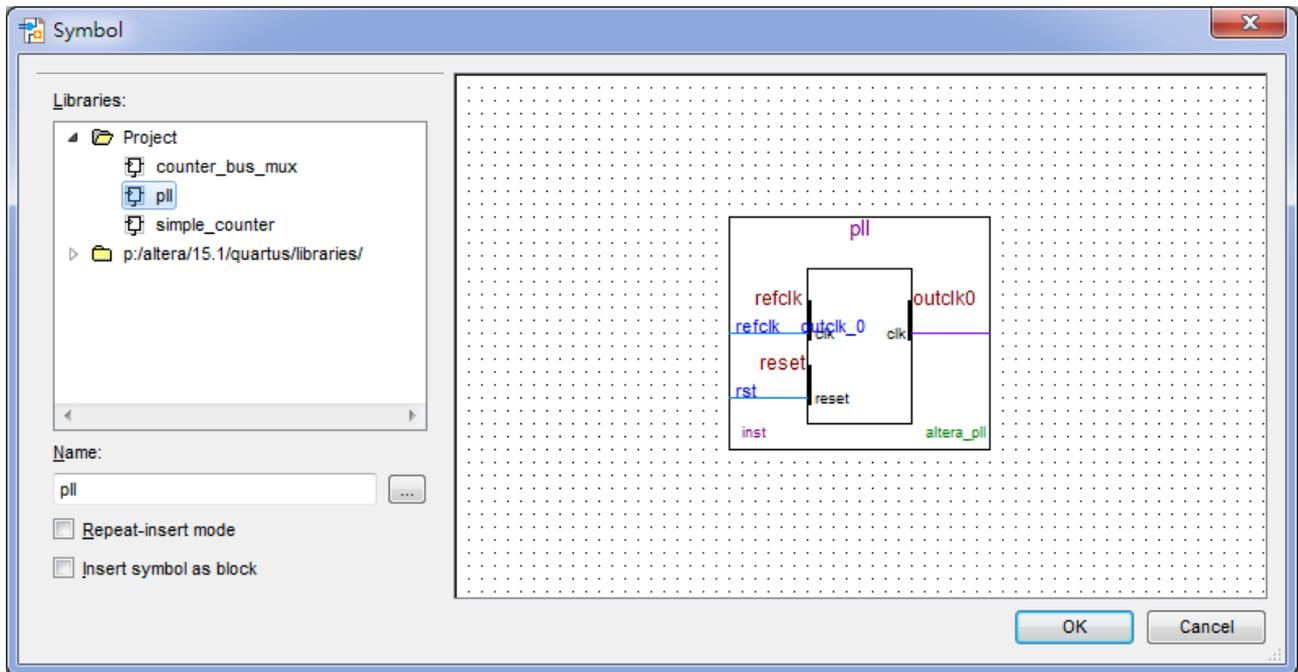

Figure 3-14 PLL Symbol
9. The Symbol window opens, showing the newly created PLL megafunction. See **Figure 3-14**.